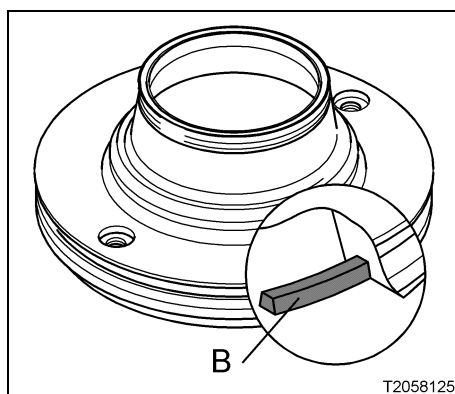

Fig. 186
- Polyamide gasket (B) of the bowl top (Fig. 186)